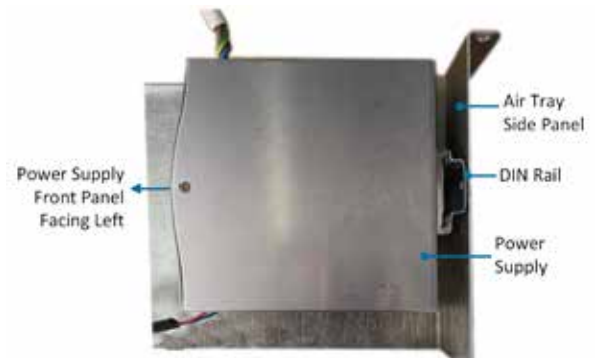

Figure 11. Assembled DIN Rail Power Supply and Air Tray (Top View)
Step 3: Using a rail/profile cutter, cut the DIN rail (not provided) length so that it fits the length of the air tray side panel. See Figure 11.
ATTENTION! When assembled, the power supply must be flush with the rear of the air tray. Refer to Figure 11 .